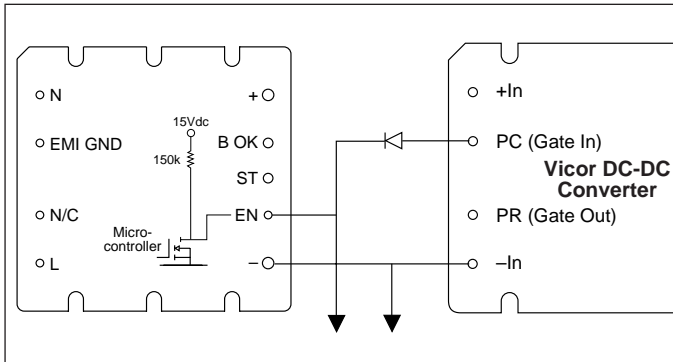

Figure 10—Enable (EN) function
**Enable (EN) Pin.** (see Fig. 10) The Enable pin must be connected to the PC or Gate-In pin of all converter modules to disable the converters during power-up. Otherwise, the converters would attempt to start while the hold-up capacitors were being charged through an unbypassed current limiting thermistor, preventing the bus voltage from reaching the thermistor bypass threshold, thus disabling the power supply. The Enable output (the drain of an N channel MOSFET) is internally pulled up to 15V through a 150kΩ resistor.